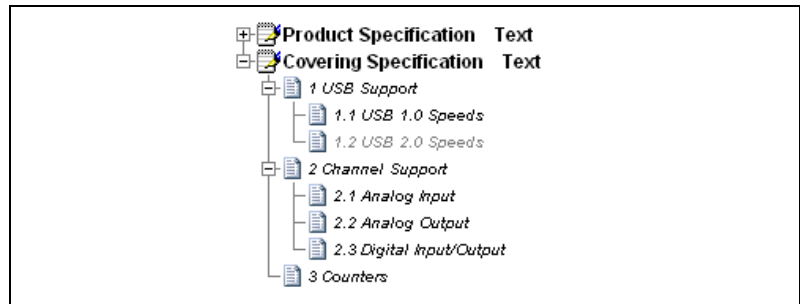

Figure 2-7. Covering Specification in Management View
13. Expand the child elements of the **Covering Specification** document on the tree view pane, as shown in Figure 2-7.